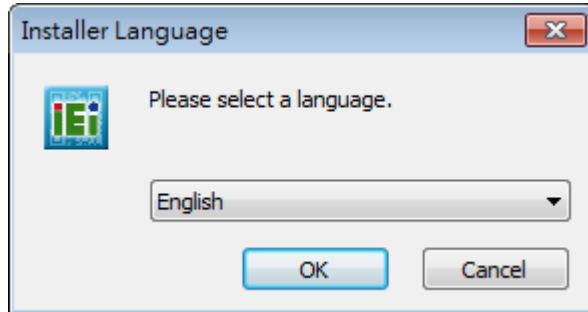

Figure 3-1: Selecting the Display Language
Step 5: Select the display language for the Setup Wizard (**Figure 3-1**), and then click **OK** to continue.